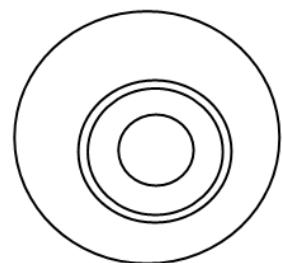

Figure 27 Adjustment of the output coupler
- Adjust the position of OC so that the center of OC would be in the center of laser rod (Figure 27).